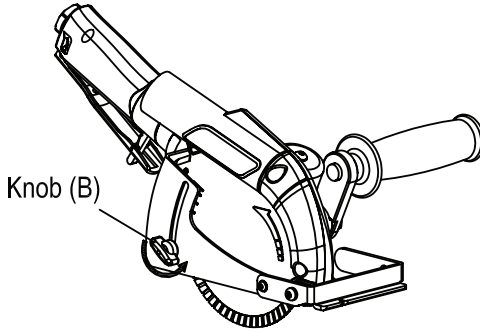

Figure 14
1. Loosen the Knob (B) on the Dust Collection Cover. (Fig. 14)